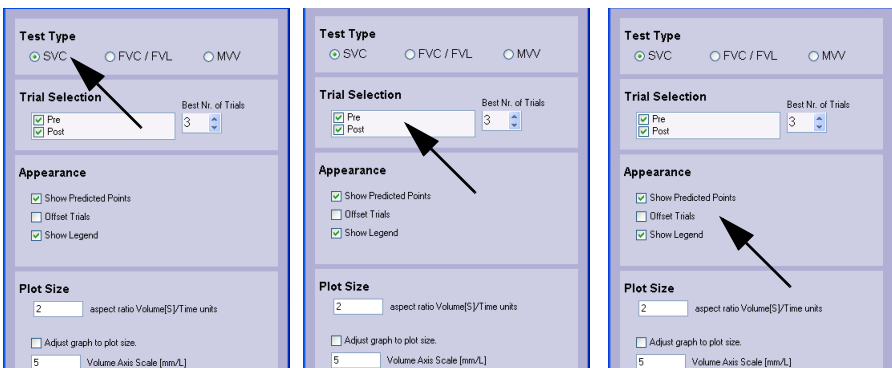

Fig. 10-10 Fenster „Spiro Graph Configuration“
- Click **Run Designer**. The Spiro Graph Configuration window will be displayed (Fig. 10-10).